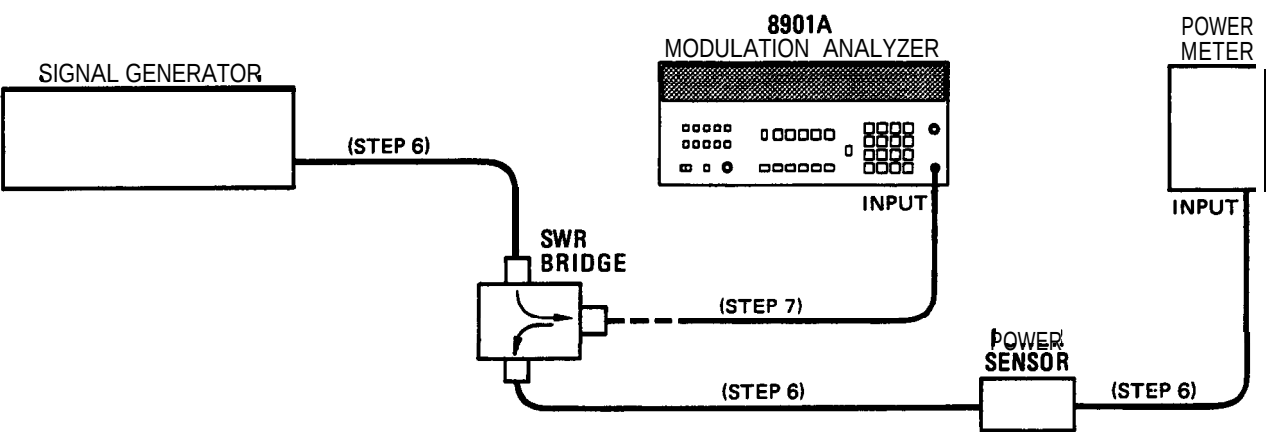

Figure 4-8. SWR Performance Test Setup
- 6. Connect the equipment as shown in figure 4-8.